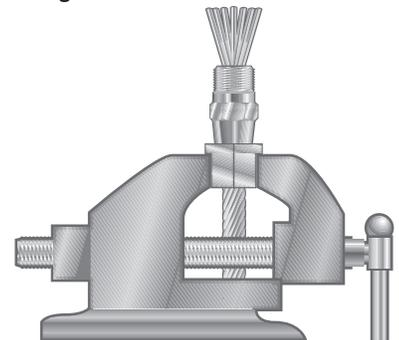

Figure 2
STEP 2: Unlay the rope. (Figure 2) Gently force a screwdriver between the three main strands to unlay the rope. Once the three main strands have been unlayed, insert the brass plug and partially seat the brass plug (this eliminates further unlaying of the strands). Now, unlay the wires in each of the three strands to form a symmetrical basket. Take care to minimize individual wires crossing each other in the symmetrical basket.